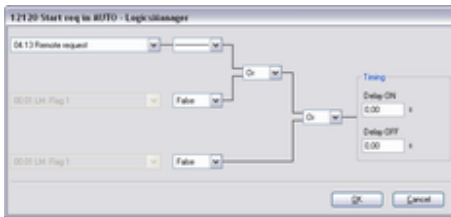

Fig. 243: LogicsManager function "Start req in AUTO"
3. ➤ Configure the LogicsManager function "Start req in AUTO" as shown in (Fig. 243).